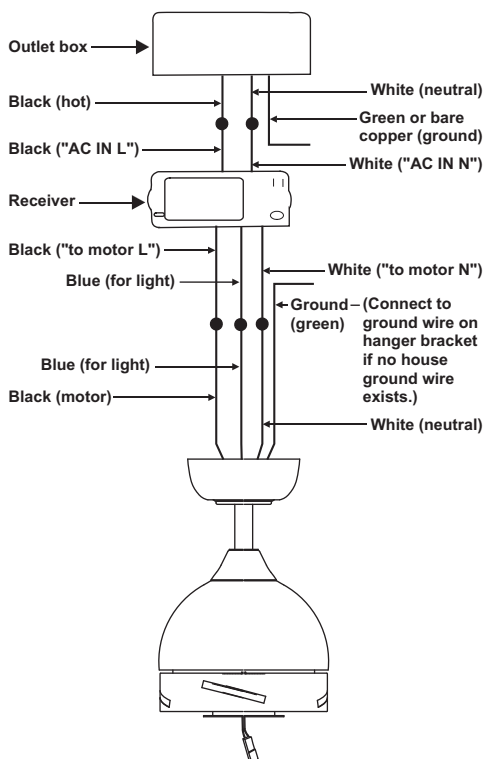

Figure 11
Step 2. (Fig. 11) Motor to Receiver Electrical Connections: Connect the Black wire from the fan to Black wire marked "TO MOTOR L". Connect the White wire from the fan to the White wire marked "TO MOTOR N" from the receiver. Connect the Blue wire from the fan to the Blue wire marked "For Light" from the receiver. Secure wire connections with the plastic wire nuts provided.
Step 3. (Fig. 11) Receiver to House Supply Wires Electrical Connections: Connect the black (hot) wire from the ceiling to the black wire marked "AC in L" from the receiver. Connect the white (neutral) wire from the ceiling to the white wire marked "AC in N" from the Receiver. Secure the wire connections with the plastic wire nuts provided.
Step 4. (Figure 11) If your outlet box has a ground wire (green or bare copper) connect it to the fan ground wires; otherwise connect the hanging bracket ground wire to the mounting bracket. Secure the wire connection with a plastic nut provided. After connecting the wires, spread them apart so that the green and white wires are on one side of the outlet box and black and blue wires are on the other side. Carefully tuck the wire connections up into the outlet box.